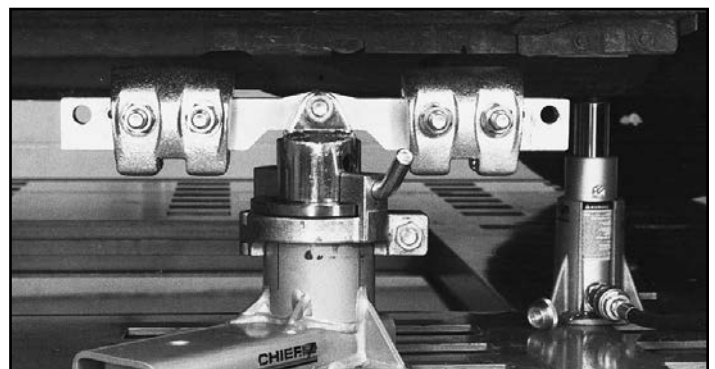

Figure 15
3. Position lifting device under subrail (or other structurally sound component) at front of center section. Lift corner of vehicle high enough to install anchoring stand under rocker panel. (See Figure 15.)